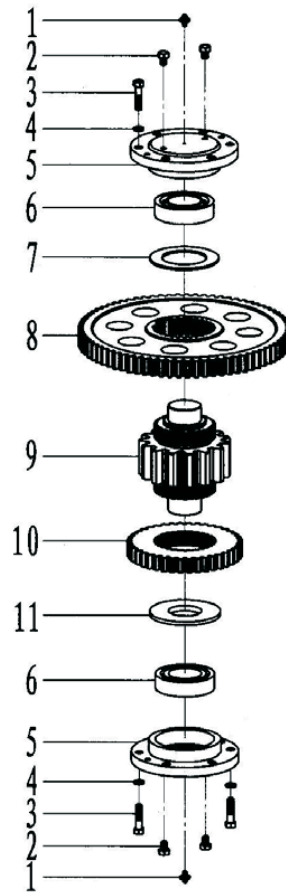

Fig.7
7.7 Assembly of triple gear (Fig.7, Table7)